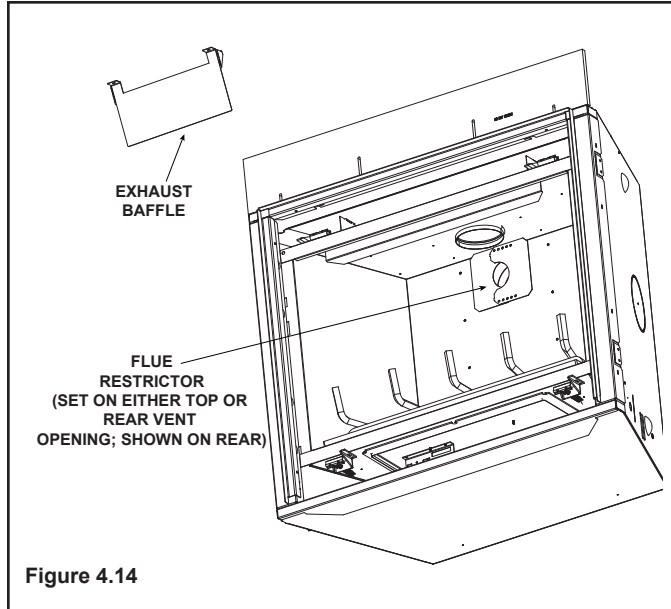

Figure 4.14
1. Remove exhaust baffle using a 1/4 inch nut driver by removing the two screws securing it in place. See Figure 4.14.
3. Center the two flue restrictor pieces on the vent at the setting selected in step 3 and secure in place by using two self-tapping screws. See Figure 4.14.